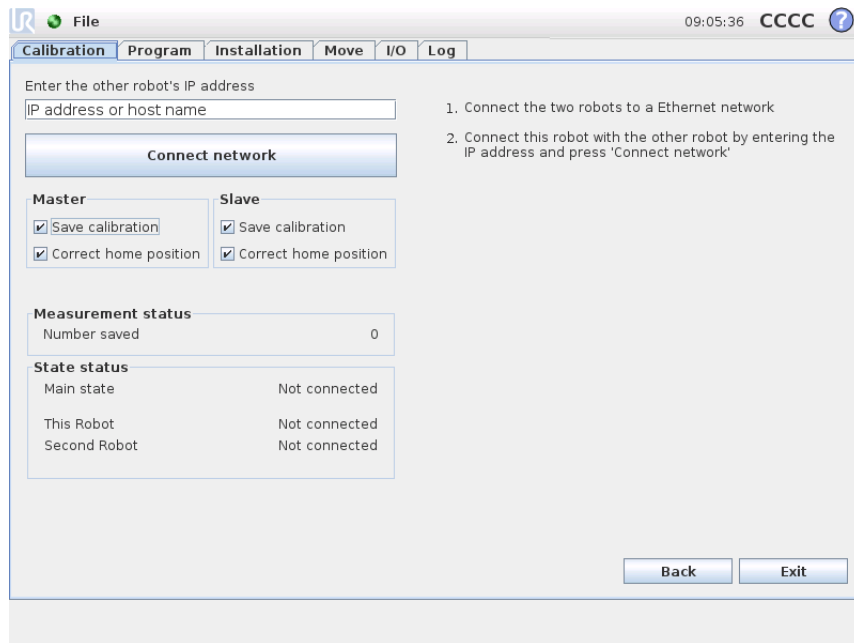

Figure 2.13: Manual enter IP address
Selecting *Manual* leads to the screen in Figure 2.13.
- (9) In Figure 2.13, Enter the IP number or host name of the *Slave* by clicking the text field with the text "IP address or host name".
- (10) Connect by press *Connect network*, see Figure 2.13.